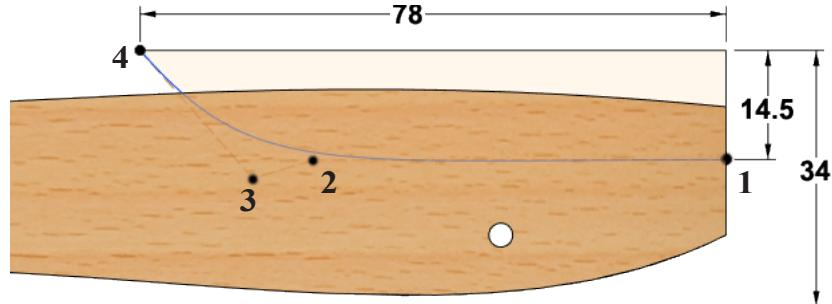

Fig. 28
Step 10. Sketch a 4 control point Spline between endpoints of lines, Fig. 28. Press ENTER to end spline.
Step 11. Click Dimension  (D) on the toolbar.